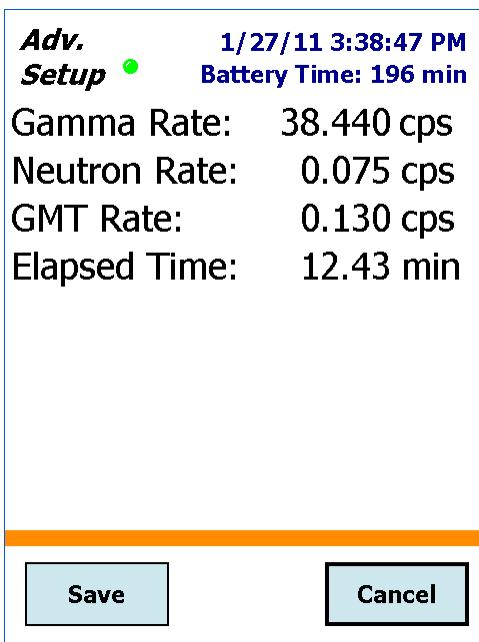

Figure 46. Collect Background for At Least the Specified Minimum Time.
- Tapping the **Run a Background** button, at the end of the manual calibration routine, opens the screen shown in Fig. 46 and automatically starts the background acquisition.